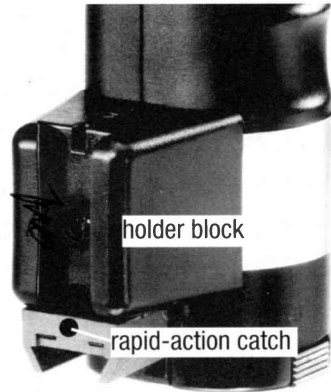

Fig. 1b: Inserting the camera bracket
- Insert the camera bracket into the rapid-action catch of the holder block until it is audibly engaged (fig. 1b).